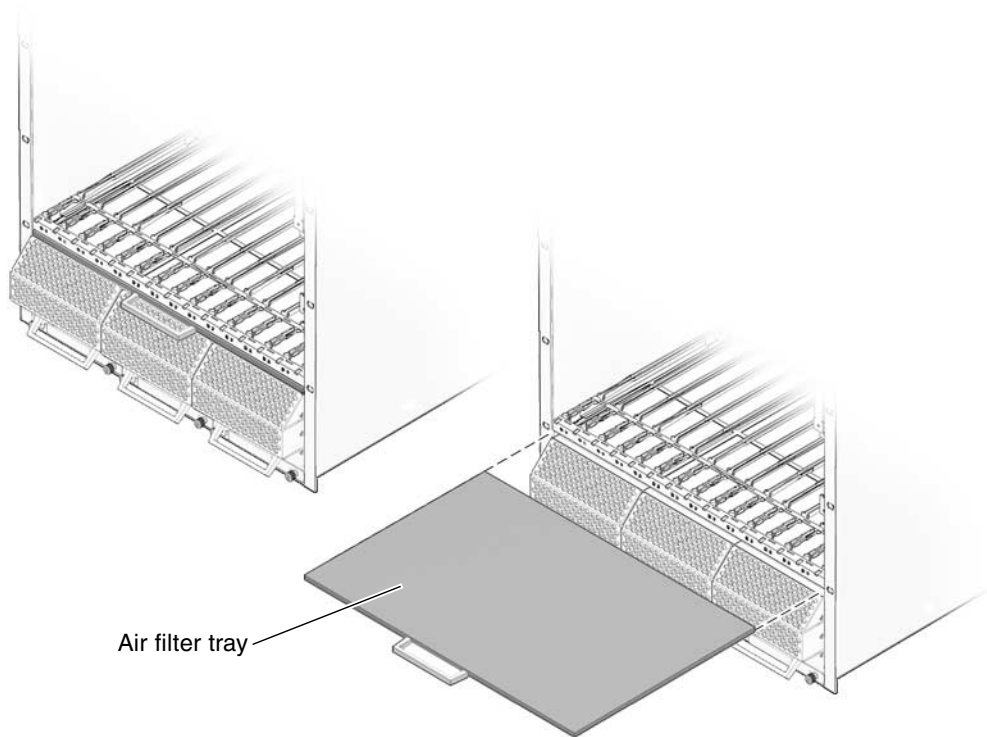

FIGURE 5-9 Location of Air Filter Tray
The air filter tray is located directly above the three fan trays (FIGURE 5-9).
2. Insert the air filter tray into the air filter slot at the front of the shelf (FIGURE 5-9).